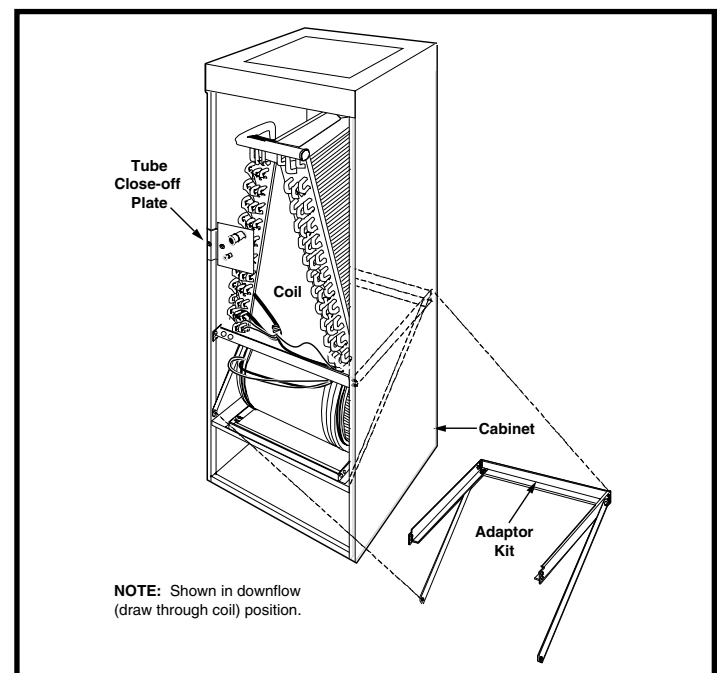

Figure 1. Location of Major Components
3. Unfold and install the adaptor kit using screws supplied with the kit. See Figure 1. Holes for mounting the downflow adaptor kit are provided in the air handler.
4. Replace the indoor coil assembly and secure the tube close-off plate to the cabinet. See Figure 1.